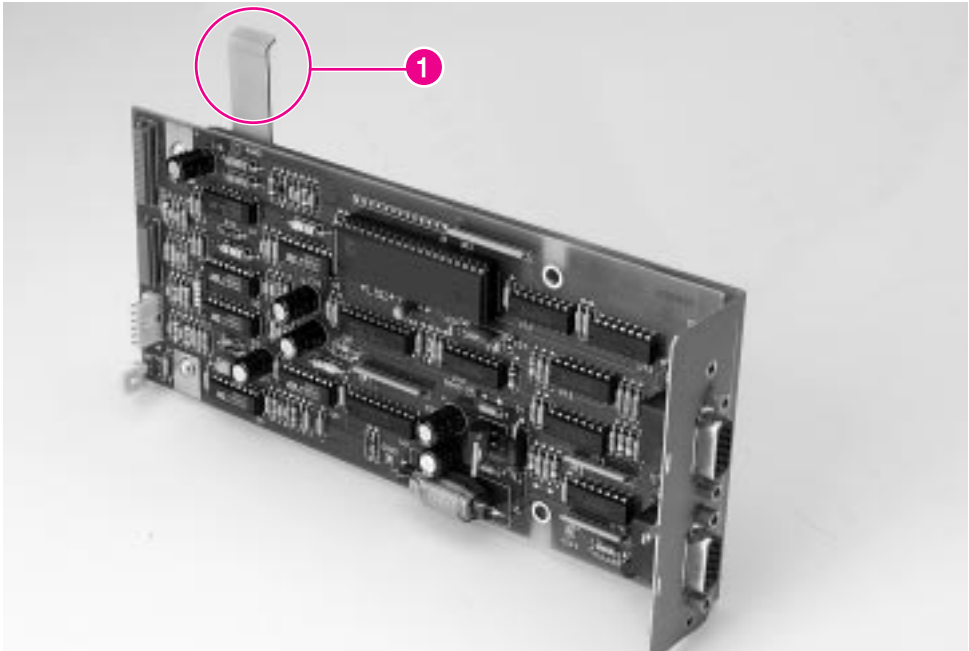

Figure 6-85 **Stapler Controller PCA (3 of 3)**
- 5 The board is supported by a hooked tab at the top of the card (see figure 6-85, callout 1). Slide the board to the left and then down.